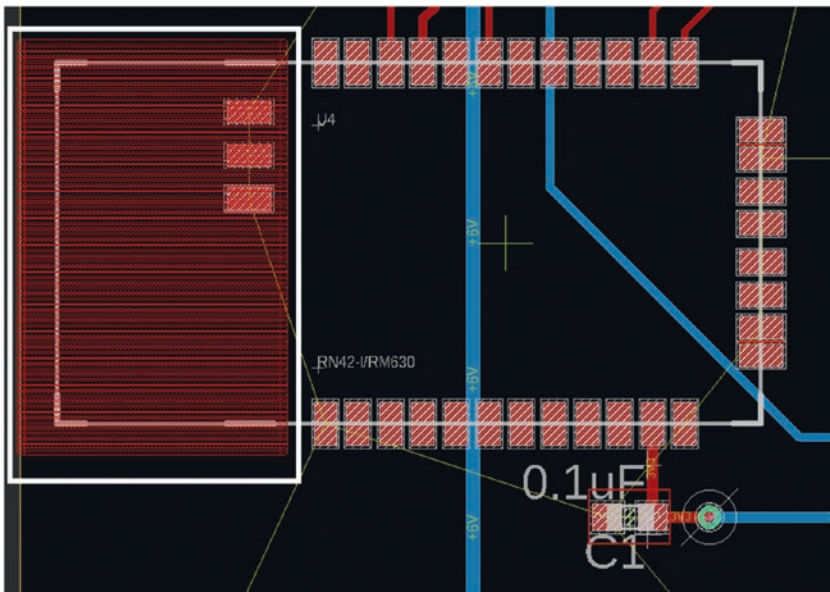

Figure 7-18. Add a top layer keepout zone under the Bluetooth antenna
2. Create a polygon like the one shown in Figure 7-18.